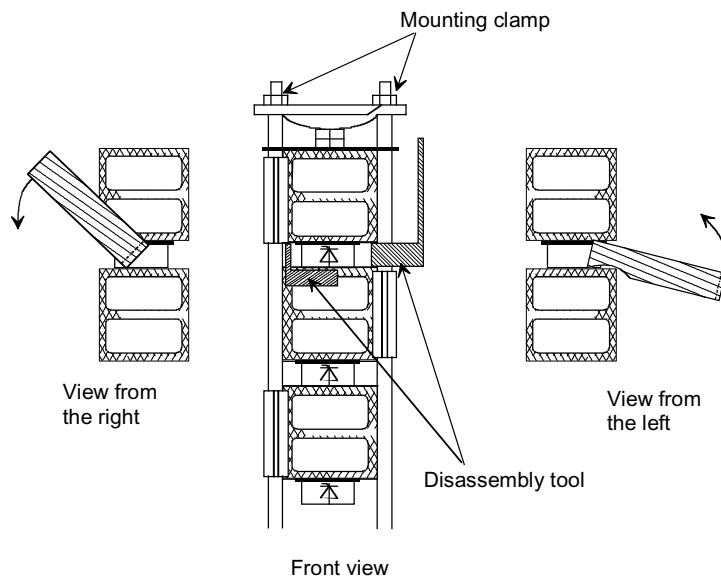

Figure 7-1 How to use the disassembly tool (at a left thyristor stack of a converter)
- Attach the disassembly tool at the faulty thyristor and prise open the upper and lower heat sinks (see *Figure 7-1*). The copper bars need not be loosened .